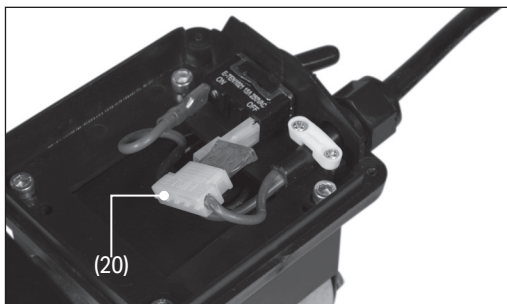

Fig. 11
2. Carefully remove the fuse (20) from the holder (Fig. 11).